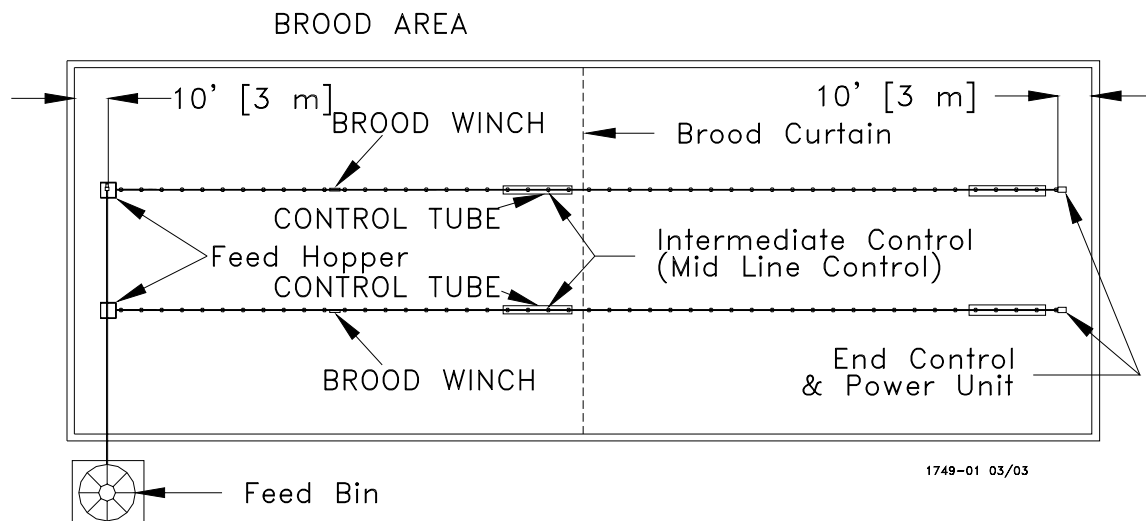

Figure 1. Component location diagram for systems up to 400 feet [122 m]. (Top View).
A. Optional Mid Line Controls may be used for partial house brooding. See Figure 1..